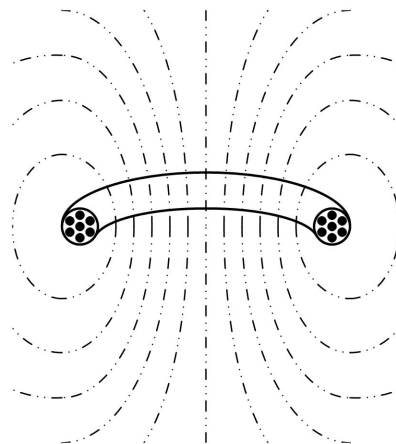

Figure 1: Coil Field
Most loop coils are wound as skinny donuts, using multiple turns of insulated wire. If you pass a current through such a coil it will generate a field as shown in Fig. 1. Direct current (DC) will generate a *static* magnetic field, and alternating current (AC) will generate an *alternating* magnetic field. We're interested the AC field, which we'll call an electromagnetic field for simplicity. When we bring a second coil close to the first one, the signal from the first coil will couple into the second coil via *induction*. Induction is incredibly useful, and is how transformers work. Inductive coupling efficiency depends on several things, like coil placement and the core material they're wound on. Transformers use iron or steel to improve coupling efficiency, while metal detector coils use air.
(see Fig. 1). Similarly, the RX coil is most sensitive to target signals along the axis through its center. For this type of coil arrangement, these axes are not coincident. It turns out the area of greatest sensitivity is where the two coils overlap. Since this is not the point of greatest sensitivity for either coil, this method has somewhat lower overall sensitivity than other methods.